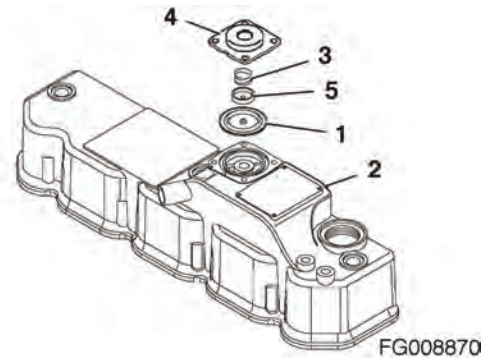

Figure 106
The non-turbo TNV engines use a crankcase breather system that has a spring-backed diaphragm (2, Figure 106) in the valve cover (2, Figure 106). When the crankcase pressure reaches a predetermined value, the diaphragm opens a passage that allows crankcase fumes to be routed to the intake manifold.
To inspect the diaphragm and spring (3, Figure 106):
1. Remove the bolts retaining the diaphragm cover (4, Figure 106).
2. Remove the diaphragm cover, spring, diaphragm plate (5, Figure 106) and diaphragm.